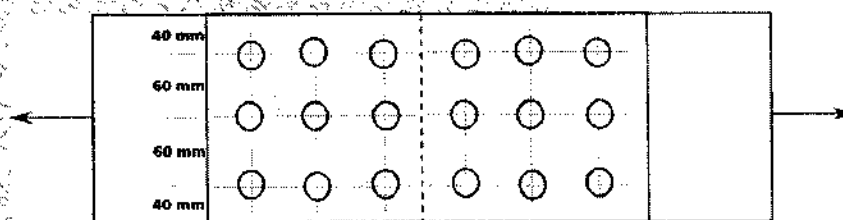

Figure 1
B) A joint in a truss girder consists of a double cover butt joint used to connect two bracing flats (ISF 200 x 12). The thickness of each cover plate is 8 mm. The flats have been joined by 9 power-driven field rivets in chain riveting pattern at a gauge of 50 mm as shown in the Figure 1. The nominal diameter of the rivets used is 22 mm. The yield strength of the flats used is 260 MPa. Find the capacity of the joint. **(06)**
- A) The Frame ABCDEF shown in Figure 1 has a regular hexagon shape and is subjected to 60 kN vertical downward loads at A and D. All the members are of the same material and have the same cross-sectional area. Determine the forces in all the members.